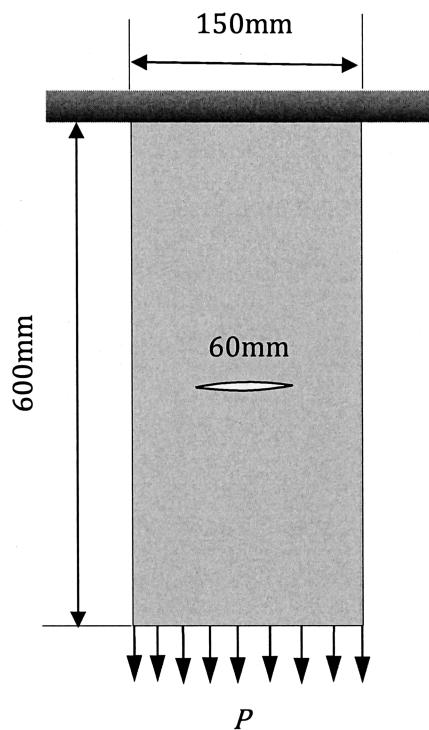

Figure 2.1
- 2 (a) A steel plate of length 600 mm, width 150 mm, and thickness 1 mm, has a central crack of 60 mm length and carries a tensile load of P . The geometry correction, Y , is given below in Figure 2.1: